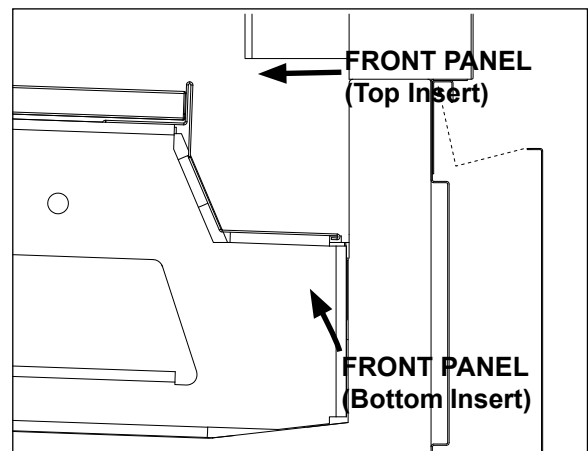

Fig. 5 Install front panel
3. Install the front panel (Fig. 5). The front panel bottom insert is a painted panel that ships loose with the case. The panel is inserted upward under the door frame exteriors and is supported without fasteners by setting the panel on the tabs as shown.